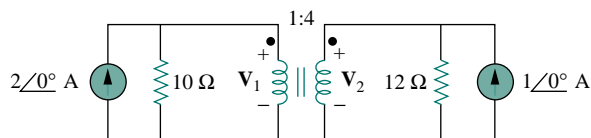

Figure 13.97 For Prob. 13.30.
- 13.30** Obtain V_1 and V_2 in the ideal transformer circuit of Fig. 13.97.